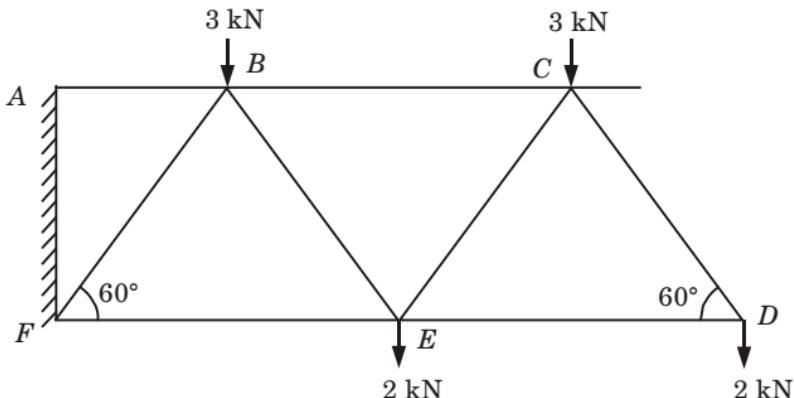

Fig. 7.
- b. The Fig. 7 shows a warren type cantilever truss along with the imposed loads. Determine the forces in all the members using tension coefficients.**